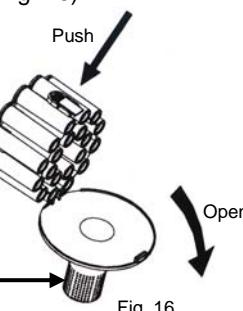

Fig. 16
1. Hold the cyclonic chamber from the top over a garbage can and press the cyclonic chamber bottom door release button to empty the dust. (Fig. 16)